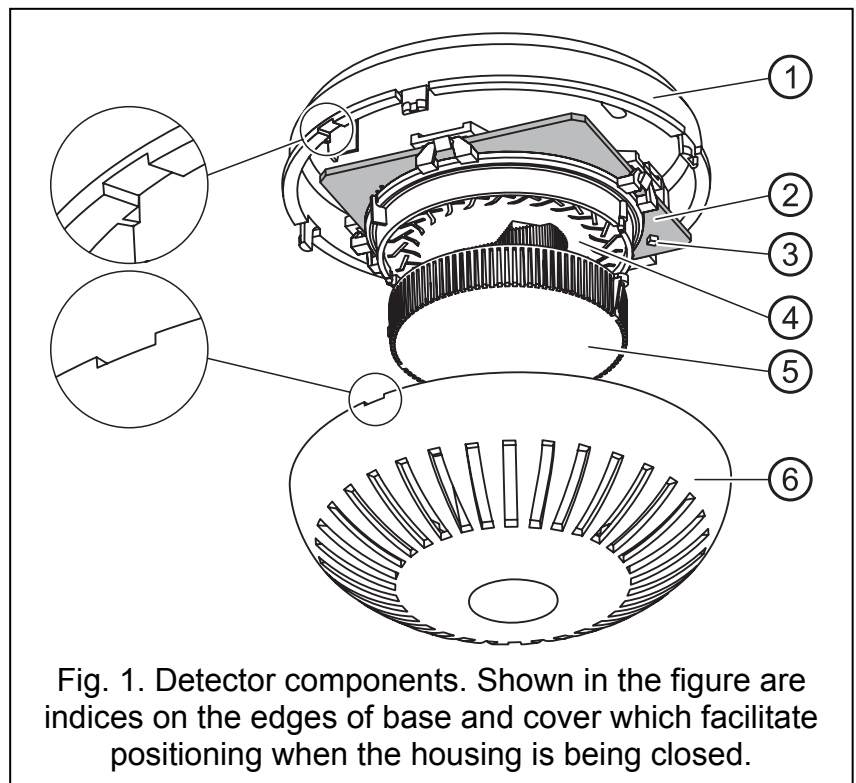

Fig. 1. Detector components. Shown in the figure are indices on the edges of base and cover which facilitate positioning when the housing is being closed.
Explanations for Fig. 1:
3. Close the housing. Put the cover where the electronics board and the optical chamber are installed to the base as shown in Fig. 1: the indices on the edges of base and cover must be aligned. Turn the cover clockwise.